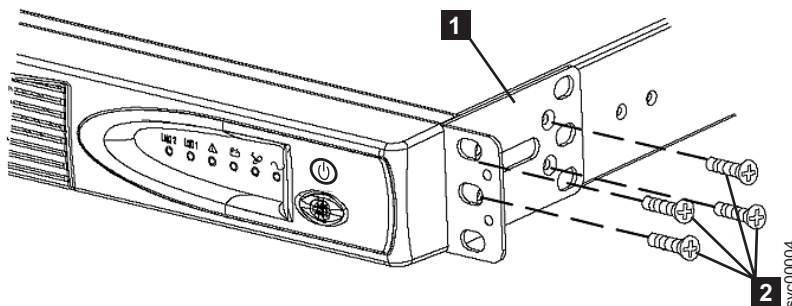

Figure 325. Installing the support rails for a 2145 UPS-1U into the rack
3. Attach the long side of a mounting bracket **1** to each side of the 2145 UPS-1U using four M3 × 6 screws **2** for each bracket, as shown in Figure 325.